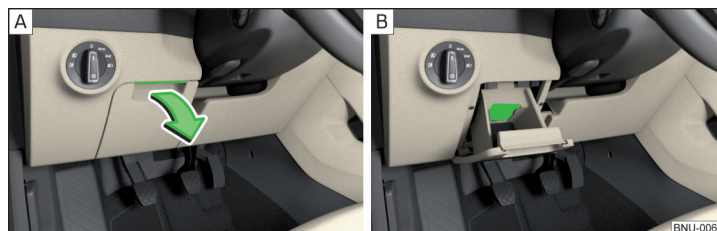

Fig. 102 Opening the storage compartment / card holder
- To **open**, lift the handle and fold out the compartment » Fig. 102 **A**.
A card holder is located in the storage compartment » Fig. 102 **B**.